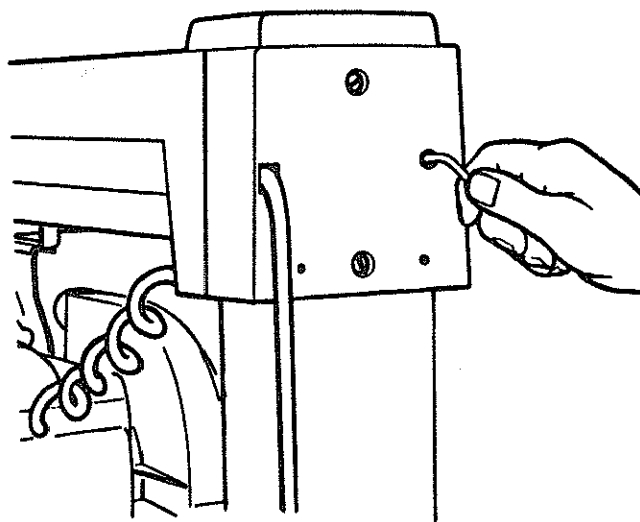

Fig. 184 - Location of Hex Socket Cap Screw
2. With a 3/16 inch hex "L" wrench find the 1/4-20 hex socket cap screw through the hole in the rear of the *arm cover*. To tighten turn the wrench clockwise approximately 1/4 turn. (Figure 184)